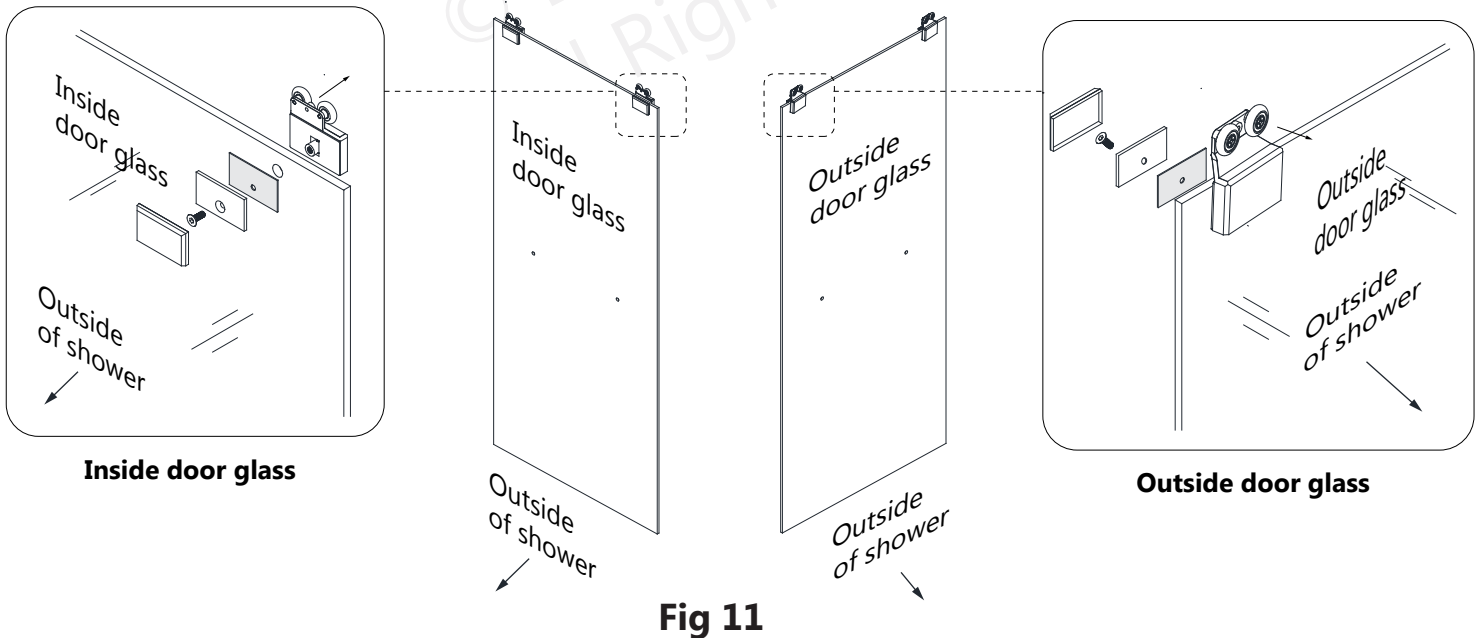

Fig 11
11. Install the **Roller Assemblies (#06)** onto the tops of both doors. Be sure to position the rollers facing in the correct direction for each door - both wheels facing 'out' for the outside door glass, and both wheels facing 'in' for the inside door glass. Bring both lites of **Door Glass (#03)** into the shower area for hanging: First the "inside" door, then the "outside" door. Use padding to protect the glass and shower area. **(Fig 11)**